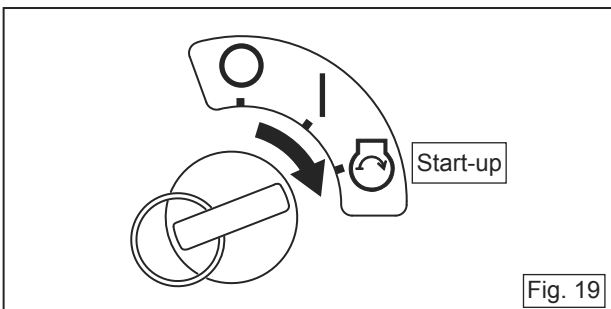

Fig. 19
6. Turn the key over to “Start”. Operate the cell starter to start the engine. After the engine starts gently take your hand off the key. (Fig. 19)